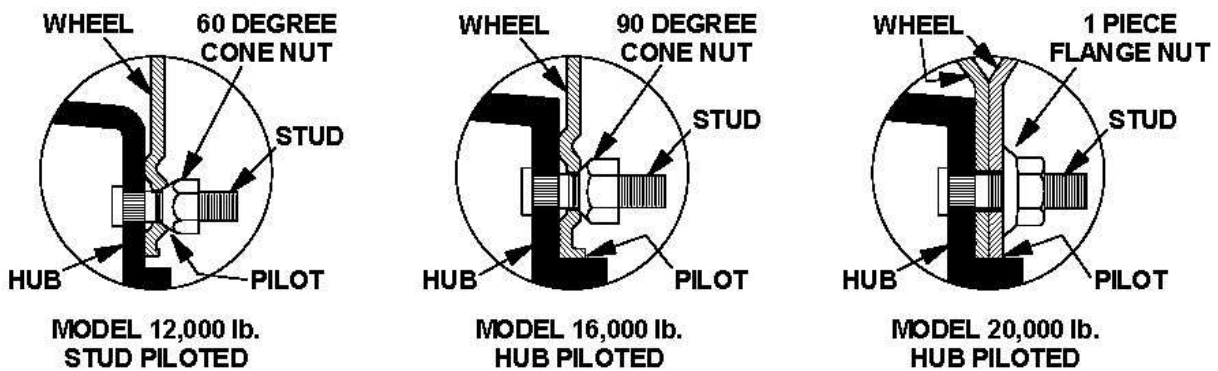

Figure 8.6 – Trailer Wheel to Hub Fit
- 8.16. **Trailer Wheels:** Verify that the wheel to hub fit is correct and that the proper wheel lug nuts are being used. See Table 8.4 for lug nut type and Figure 8.6 for wheel to hub fit.